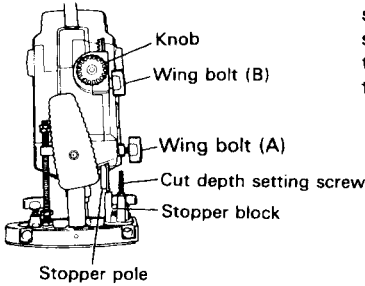

Fig. 4
(1) As shown in Fig. 4, turn the stopper block so that the section to which the cut depth setting screw on stopper block is not attached comes to the bottom of the stopper pole. Loosen wing bolt (A) and turn knob to bring stopper pole in contact with stopper block.